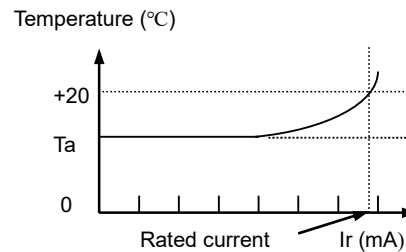

Fig. 5.3.3-2
- When operating temperatures exceeding +85°C, derating of current is necessary for chip ferrite beads for which rated current is 1000mA and over. Please apply the derating curve shown in chart Fig. 5.3.3-3 according to the operating temperature.